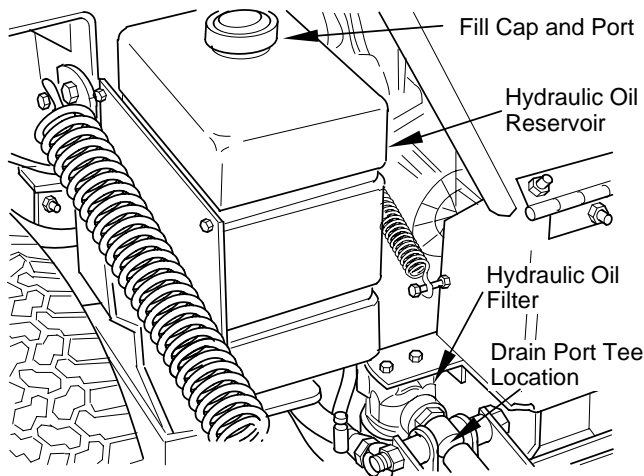

Figure 7-2 Hydraulic Oil Level
2. Visually check the level of hydraulic oil. Hydraulic oil must be at least 3 inches from bottom of fill port. See Figure 7-2. If the level cannot be determined visually, use a clean tape measure to check the level. If the fluid is low, add recommended fluid. **DO NOT** overfill; fluid level more than 3 inches below the bottom of the fill port will spill from the reservoir.
2. Place a suitable container under the hydraulic oil filter. Remove the cap from the tee installed in the hydraulic oil filter head. See Figure 7-2. Allow the fluid to drain into the container.
1. Remove the oil filter element and discard. Fill the new filter with clean oil. See Figure 7-2.